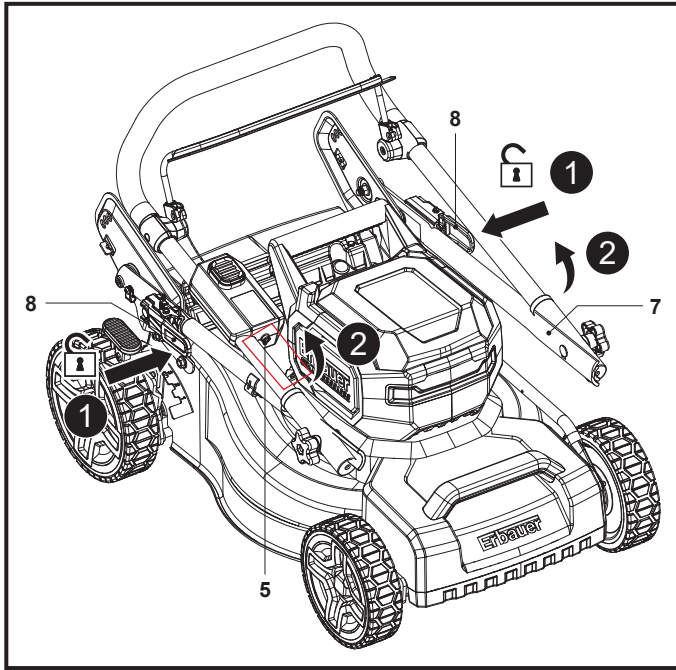

Fig. 1
1. Squeeze and disengage the two lock levers (8) on both sides of the lower handle bar (7) (Fig.1, step 1).
2. Hold the two lock levers (8) in position and fold up the handle assembly anticlockwise to leave its locking position (Fig. 1, step 2). Make sure that the control cord (5) runs on the lower handle bar (7).